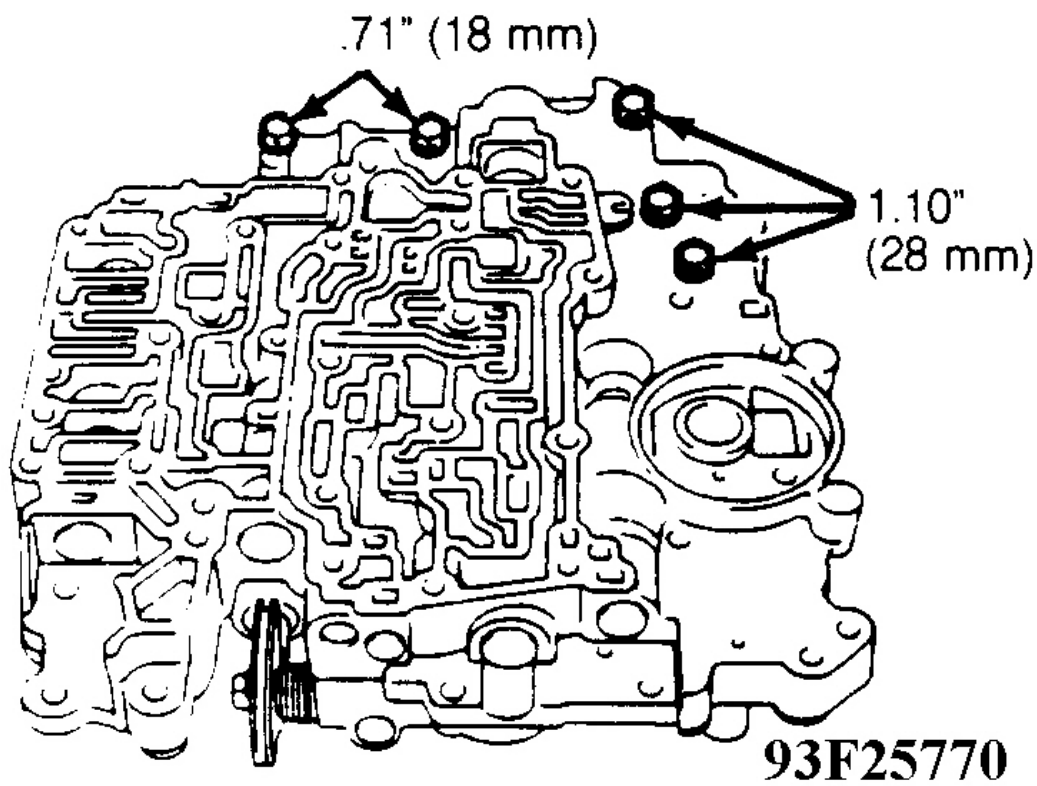

Fig. 40: Installing Lower Valve Body Bolts
3. Install and finger tighten bolts in lower valve body to secure upper valve body. Ensure correct length bolts are installed in original positions. See **Fig. 40**.